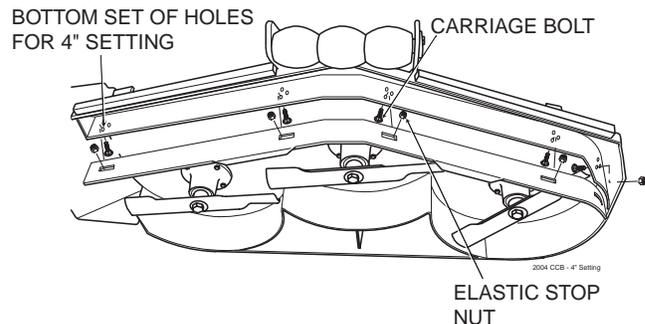

Figure 11. 4" Custom-Cut Baffle Position
- C. 4" Position (factory setting for Velocity-Plus cutter decks) - baffle is installed using the bottom set of holes on the front baffle welded inside the cutter deck. (See Figure 11). Placing the baffle in the 4" setting will enhance fall cutting (leaf pickup) and reduce cutter deck "blowout".